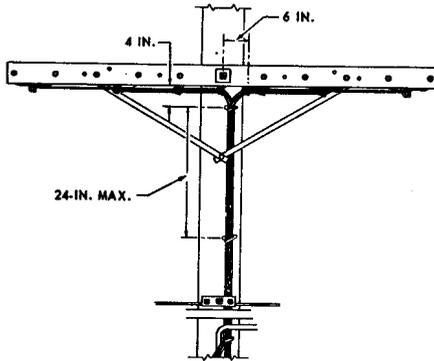

FIGURE 1. Bridle Wires at Dead-end Poles, Pole-mounted Terminals.
4.01 The following illustrations (Figures 1 through 6) show the recommended positions of bridle wires on poles and crossarms.